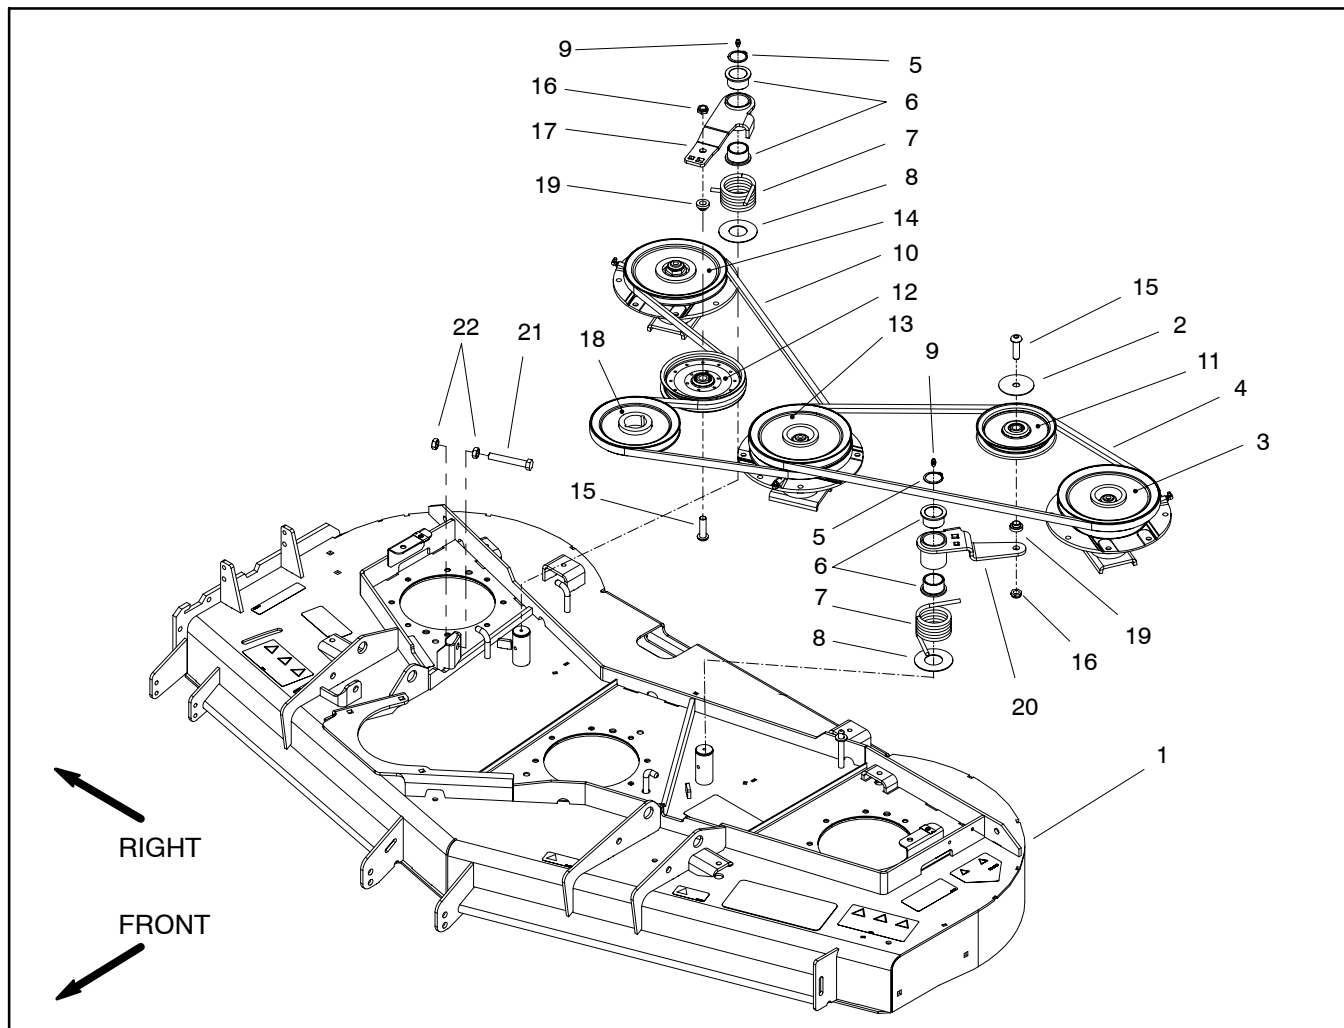

Figure 4
Removal (Fig. 4)
4. Loosen jam nuts (item 22) that secure idler stop bolt (item 21) to cutting deck to allow clearance between idler and stop bolt. Remove drive belt from deck pulleys.
8. Remove idler components as needed using Figure 4 as a guide.
Installation (Fig. 4)
1. Install removed idler components using Figure 4 as a guide. Secure idler arm assembly to cutting deck with snap ring.